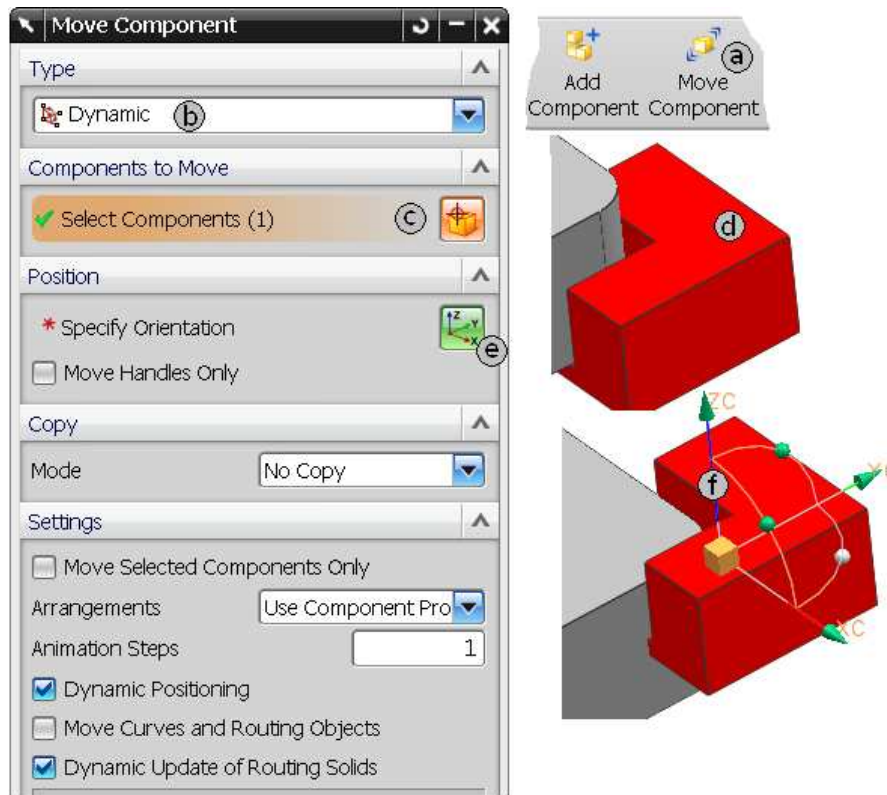

Figure 8.6 Shift of the handle component
18. Click on the *Move Component* icon (or *Assemblies /Components* menu...) — figure 8.6 (a).
19. A dialog box will appear and you will have to choose the *Dynamic* option (from this dialog box) — figure 8.6 (b).
20. Click on the *Components to Move* icon — figure 8.6 (c).
21. Click on one of the handles — figure 8.6 (d).
22. Click on the *Position* icon — figure 8.6 (e).
23. A dynamic system of coordinates will appear by the handle — figure 8.6 (f).